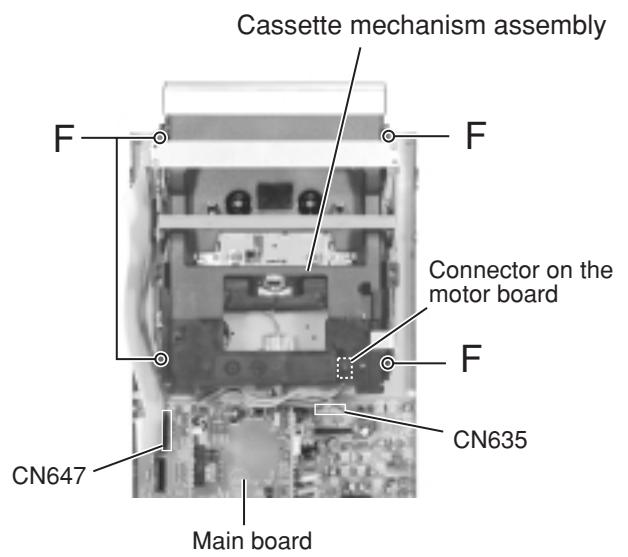

Fig. 8
■ Removing the cassette mechanism assembly (See Fig.8)